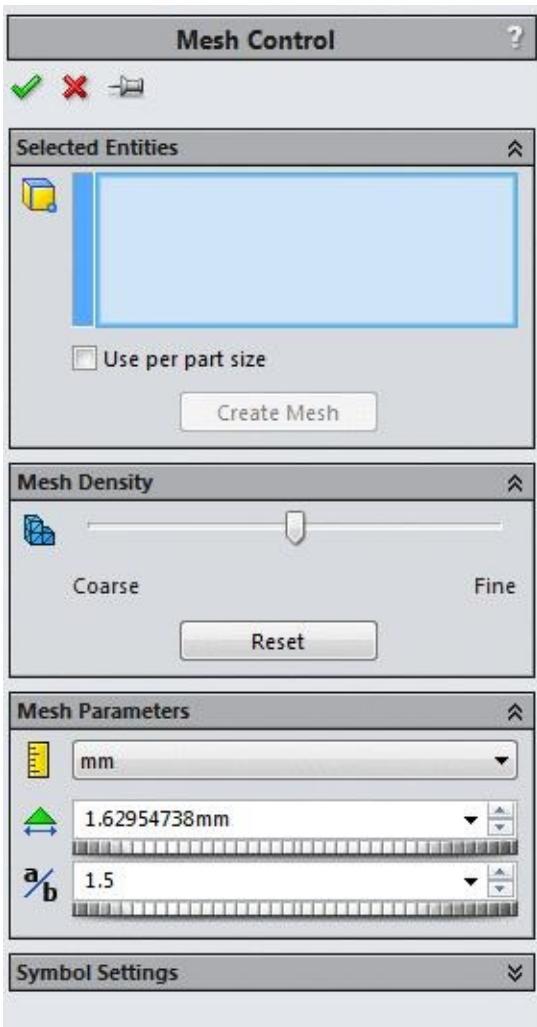

Figure-16. Mesh Control PropertyManager
- Click on the **Apply Mesh Control** button. The **Mesh Control PropertyManager** will be displayed as shown in Figure-16.